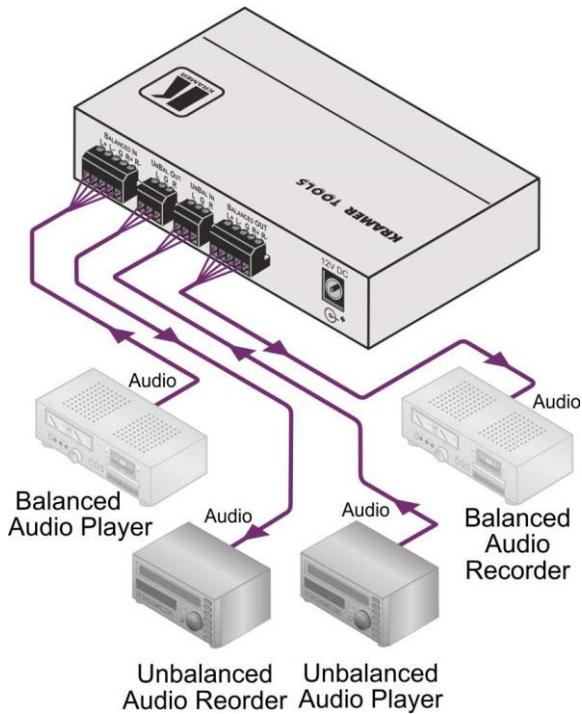

Figure 2: Connecting the 482xl Bidirectional Audio Transcoder
To convert the audio input signals at the UNBAL IN (to the balanced audio output) and the BALANCED IN (to the unbalanced audio output) connectors, as the example illustrated in Figure 2 shows, do the following:
5. Connect the 12V DC power adapter to the power socket and connect the adapter to the mains electricity (not shown in Figure 2).